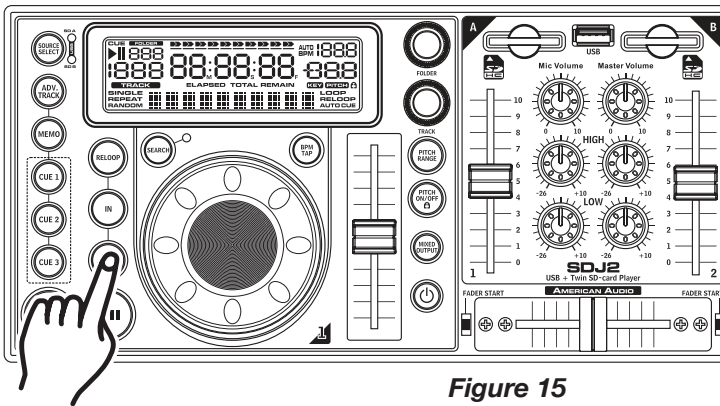

Figure 15
- 3) Press the **OUT BUTTON (26)** to set the ending point for your SEAMLESS LOOP (Figure 15). The **IN BUTTON (26)** and **OUT BUTTON (26)** LEDs will immediately begin to flash rapidly indicating the SEAMLESS LOOP mode has been activated.